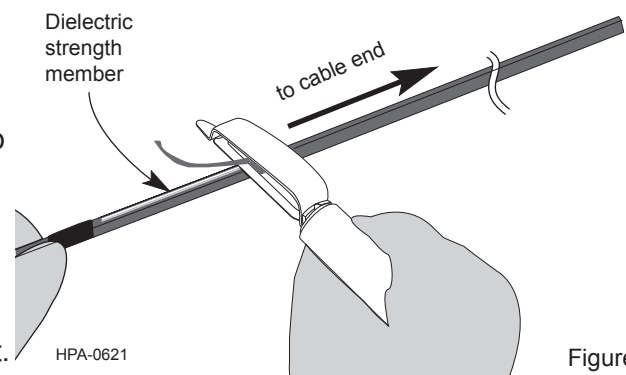

Figure 21
- Step 1:** Holding the cable in one hand with the narrow width facing up, use the flat drop cable jacket stripper to cut the jacket away from the end of the cable to expose the dielectric strength member (Figure 21). It is acceptable to cut slightly into the strength member during this process, but avoid cutting through it.